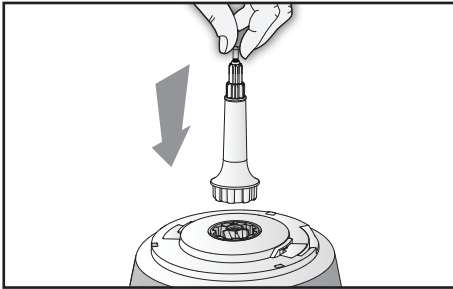

Fig. 2
- Insert the motor shaft (C) into the special seating on the power base (B) (Fig. 2).